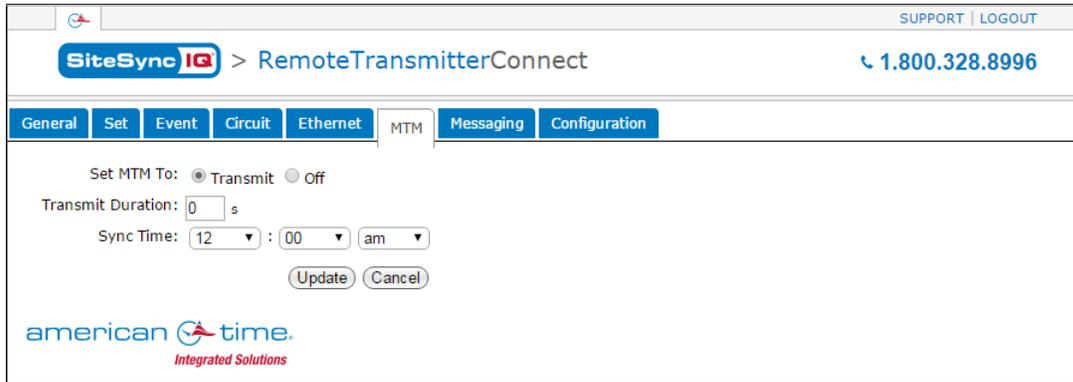

Figure 9
7. **Schedule Description:** This displays the schedule name as defined in the Event Edit window (Figure 9).